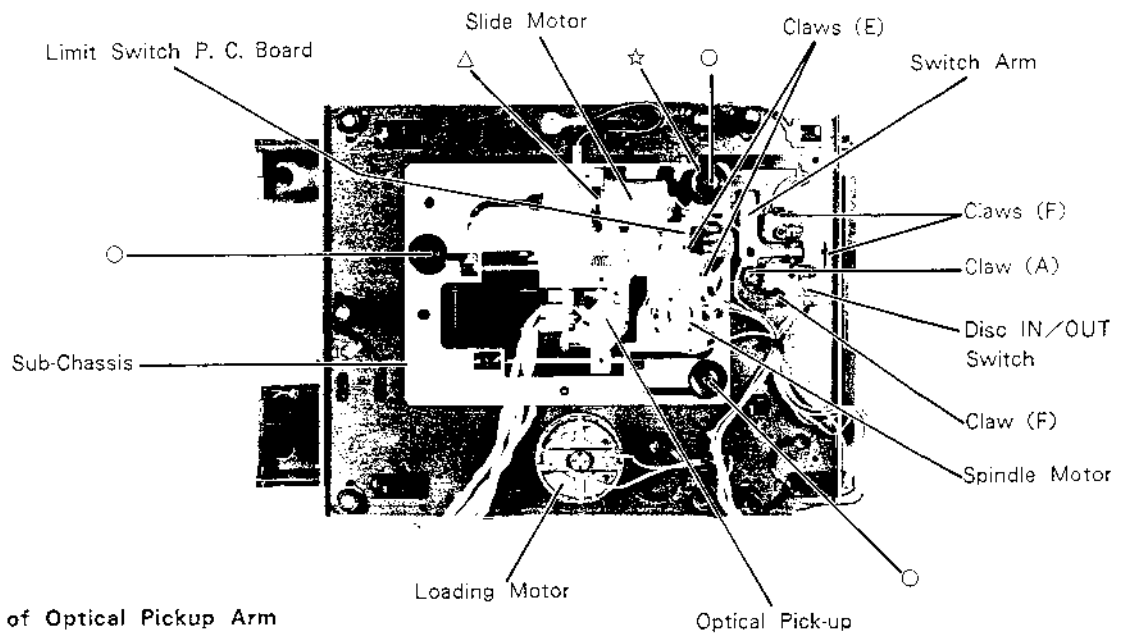

Figure 8
- (2) After disengaging one claw (A), remove the switch arm as shown in Figure 8.
(1) After removing three screws marked "O", remove the sub-chassis as shown in Figure 8.
- (1) Remove one screw marked "△" and lift up the motor as shown in Figure 8.
- (1) Remove two claws marked "E" as shown in Figure 8.
- (1) Remove three claws marked "F" as shown in Figure 8.